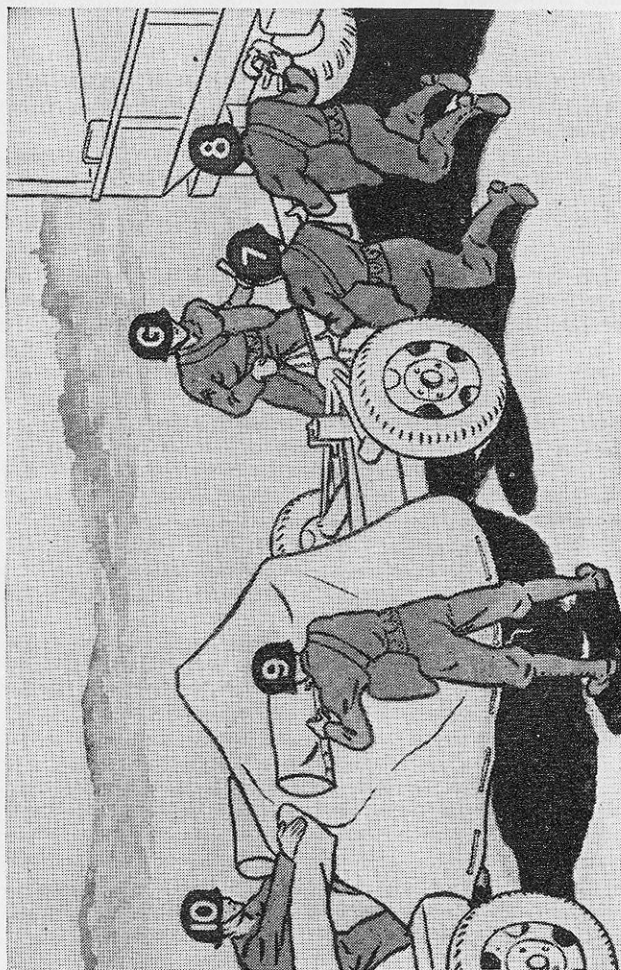

FIGURE 8.—EMPLACE GUN.
- G [commands: **EMPLACE GUN**] dismounts; takes post at left of drawbar. (See fig. 8.)